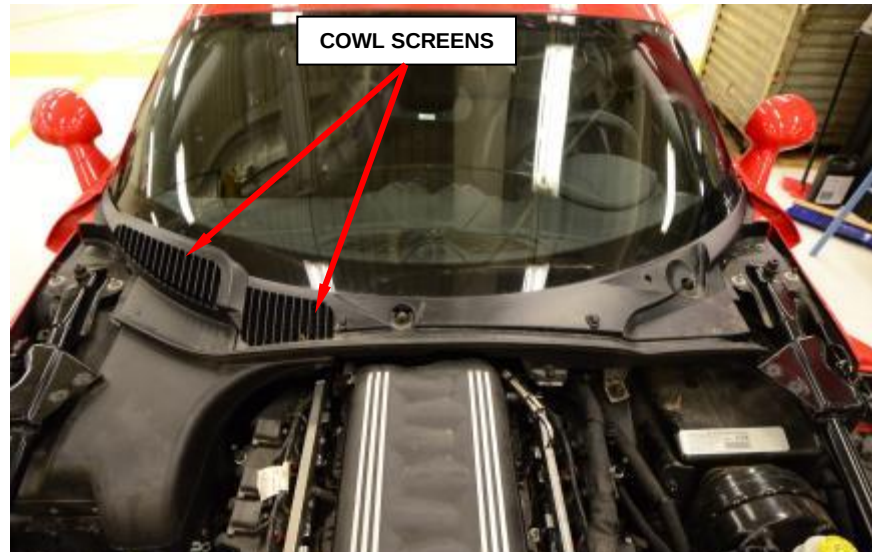

Figure 29 – Cowl Screens
35. Remove the cowl screen screws and remove the cowl screens (Figure 29).